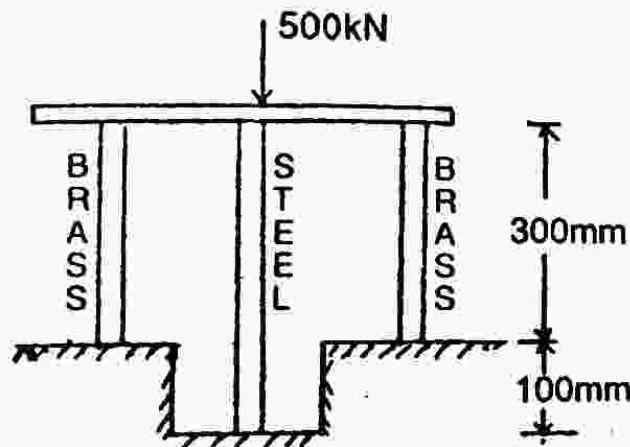

Fig. 1
1. (a) Draw stress-strain curve for mild steel under tension and explain the salient points. (6)
- (b) A steel rod of cross-sectional area 2000 mm^2 and two brass rods each of cross-sectional area of 1200 mm^2 together support a load of 500 kN as shown in Fig. 1. Find the stresses in the rod. Take $E_{\text{steel}} = 2 \times 10^5 \text{ N/mm}^2$ and $E_{\text{brass}} = 1 \times 10^5 \text{ N/mm}^2$. (7)